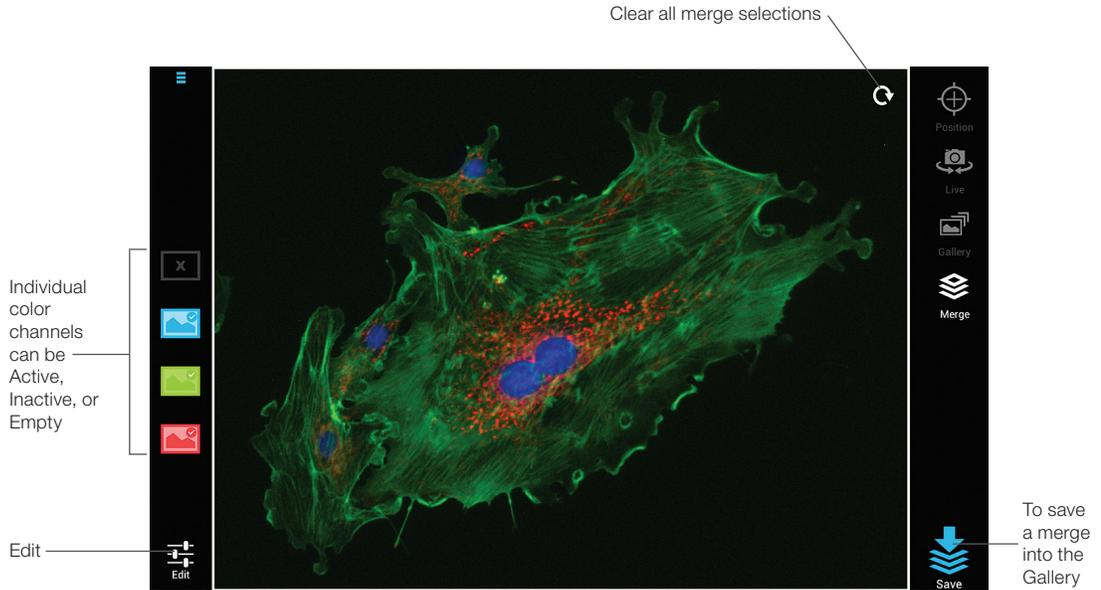

Fig. 14. Merge mode.
In this mode previously selected single-color images are overlaid into a multicolor image (Figure 14). For more details on capturing and selecting images for merge, go to **Capturing Images for Multicolor Merge**.
**Save** — when satisfied with the multicolor image tap the **Save** icon (Figure 14). The merged image, along with links to the underlying single-color images, is saved to the Merge folder in the Gallery (Figure 10).
**Clear** — use to clear all selections (Figure 14). This control is also available in Gallery mode.